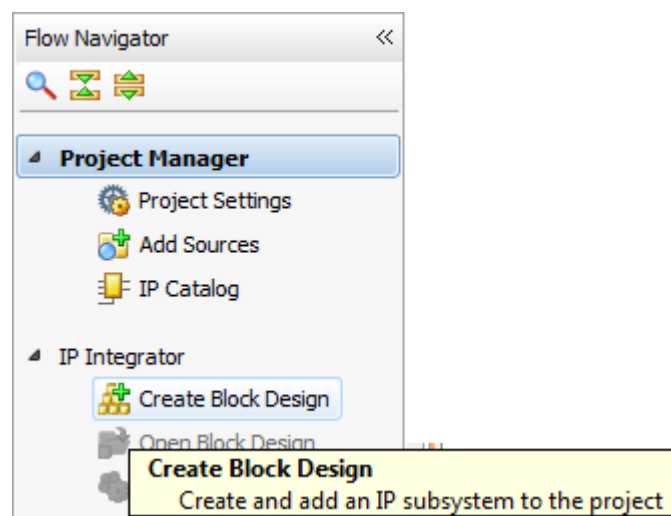

Figure 1.7: Creating a new Block Design in Flow Navigator
- (a) In the *Flow Navigator* window, select **Create Block Design** from the *IP Integrator* section, as in Figure 1.7: